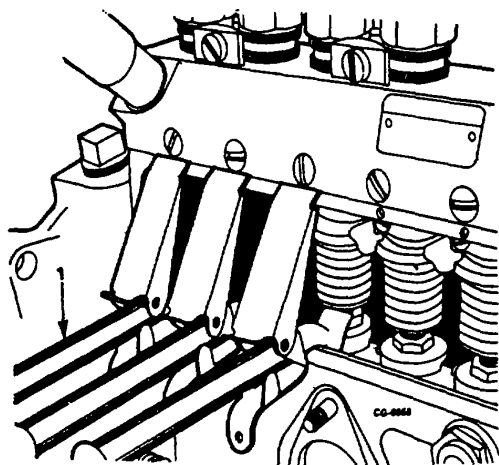

Figure 15. Installing Tappet Holder Tool
3. Install eight SE-2341 tappet holder tools (Figures 15 and 16) in side of pump to hold all tappets up from camshaft. To prevent tool breakage, lift each tappet by rotating camshaft before installing holder tool.